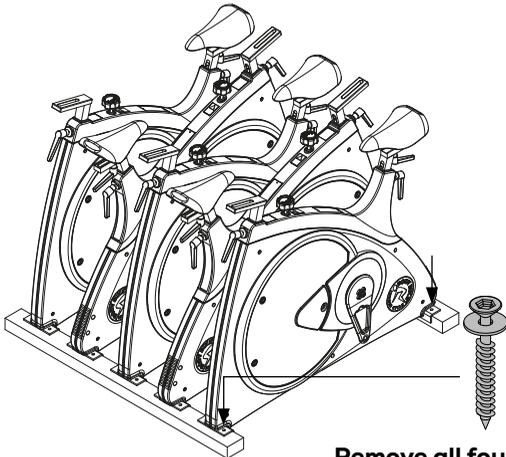

Figure 2
- 4) Loosen the four screws mounting the first cycle to the pallet. See figure 2.